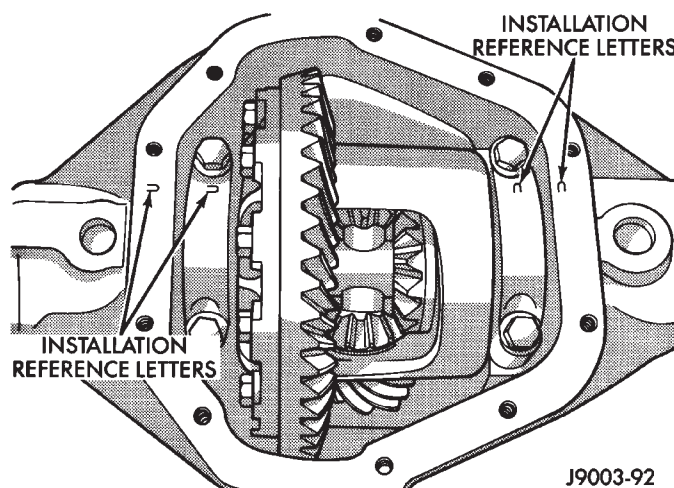
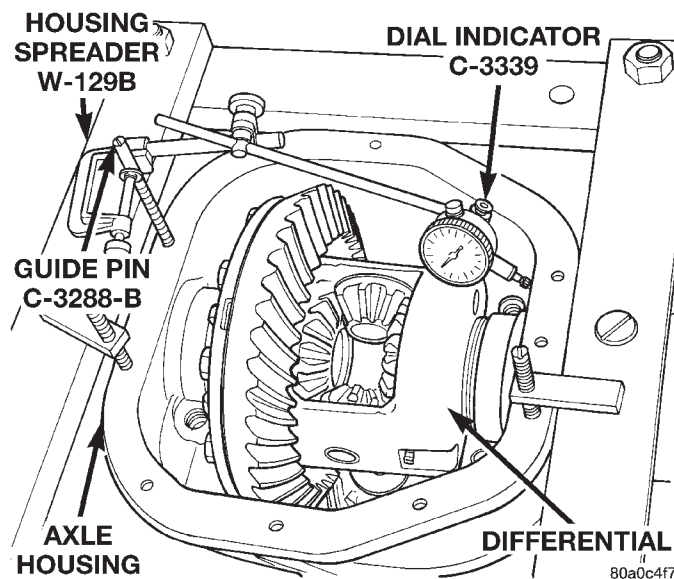

Fig. 18 Bearing Cap Identification
Fig. 19 Spread Differential Housing
- (1) Remove axle shafts.
- (2) Note the orientation of the installation reference letters stamped on the bearing caps and housing machined sealing surface (Fig. 18).
- (3) Remove the differential bearing caps.
- (4) Position Spreader W-129-B with the tool dowel pins seated in the locating holes (Fig. 19).
- (5) Install the hold down clamps and tighten the tool turnbuckle finger-tight.
- (6) Install a Guide Pin C-3288-B at the left side of the differential housing. Attach dial indicator to housing pilot stud. Load the indicator plunger
against the opposite side of the housing (Fig. 19) and zero the indicator.
(7) Spread the housing enough to remove the case from the housing. Measure the distance with the dial indicator (Fig. 19).
(1) Position Spreader W-129-B with the tool dowel pins seated in the locating holes (Fig. 19). Install the hold down clamps and tighten the tool turnbuckle finger-tight.
(2) Install a Guide Pin C-3288-B at the left side of the differential housing. Attach dial indicator to housing pilot stud. Load the indicator plunger against the opposite side of the housing (Fig. 19) and zero the indicator.
(3) Spread the housing enough to install the case in the housing. Measure the distance with the dial indicator (Fig. 19).